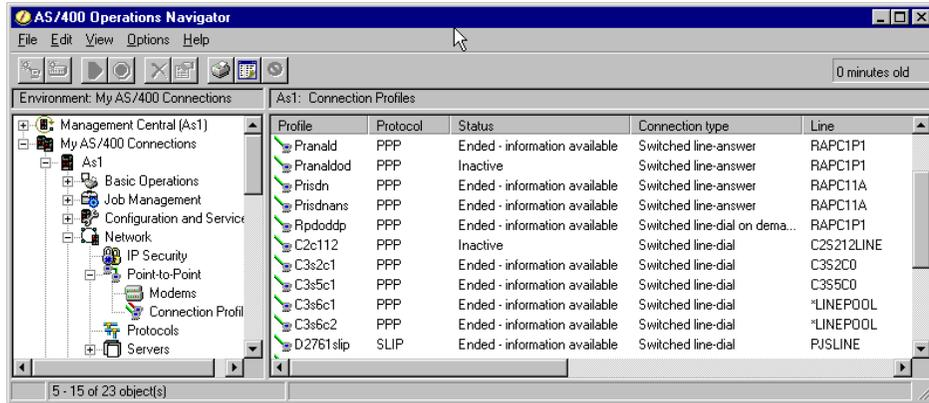

Figure 81. Status after stopping the profile on AS1
8. Check the status after stopping the profile on AS1 (Figure 81 on page 98).